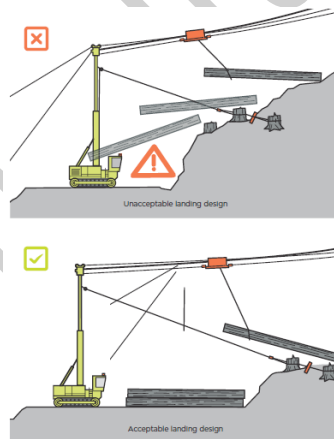

Figure 15: Landing design for downhill yarding²
16.4.6 For downhill yarding, make sure landings are large enough to have sufficient space between the base of the slope and the tower to allow for safe landing of logs without endangering the yarder (Figure 15).